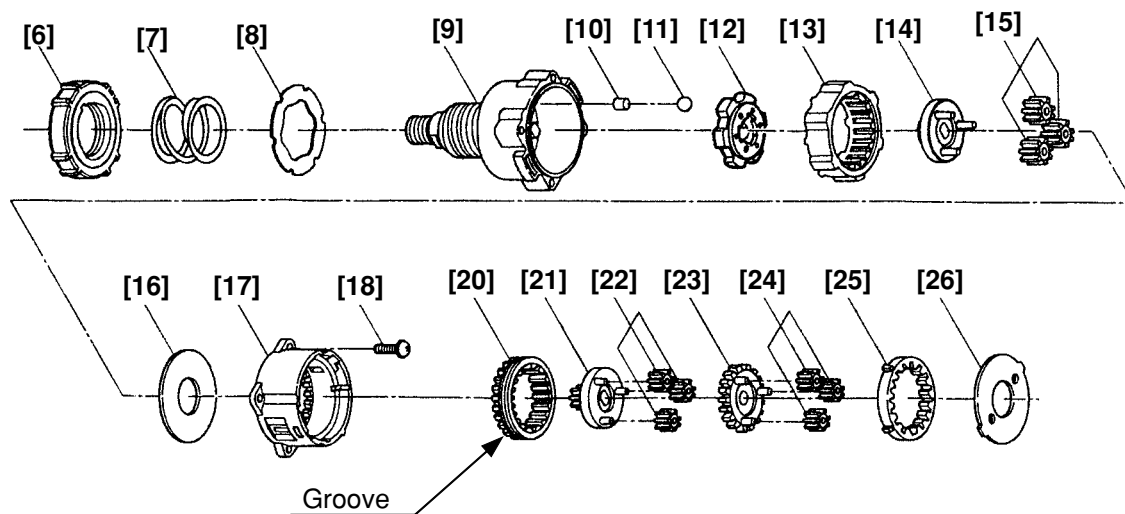

Fig. 7
Screw the Nut [6] in the Front Case [9] about one and a quarter turns. (See Fig. 7.)
(c) Install the six Rollers [10] and six Steel Balls D5 [11] into the assembly reassembled in step (2). (See Fig. 7.)
- (f) Install the Ring Gear [13] and Washer (B) [26] of Planet Gear (C) Set [15] into the assembly reassembled in step (3) (e). (See Fig. 7.)